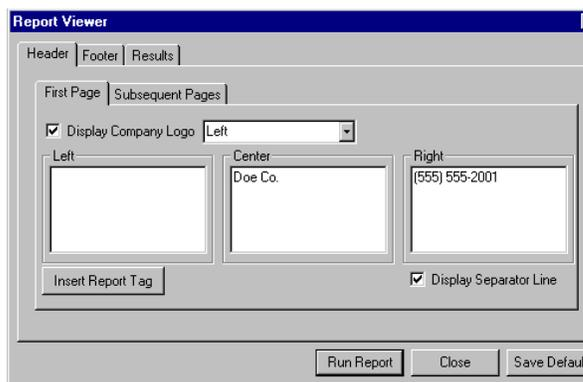

Figure 5.5. Report Viewer window
2. Click **Print**. This will access the Report Viewer window (Figure 5.5.).